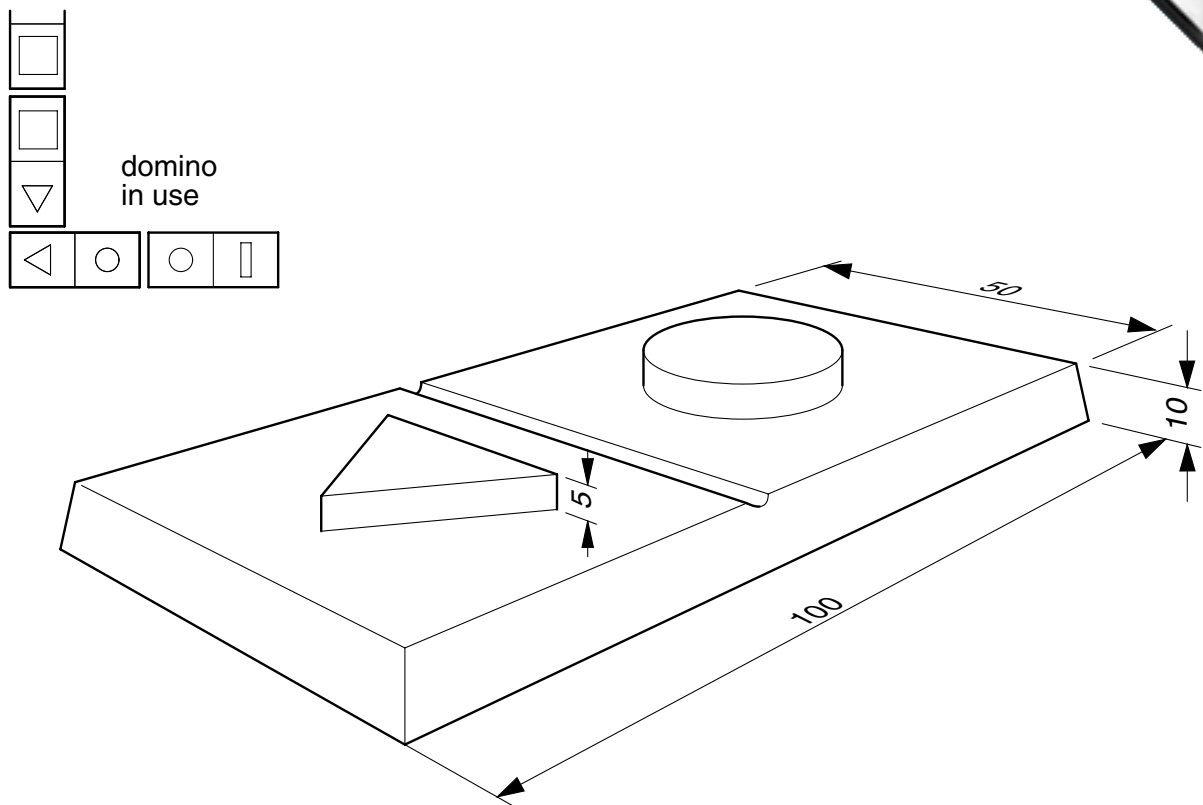

Fig. 10
- 18 Fig. 10 shows the design for a domino to be used by partially sighted and blind people.